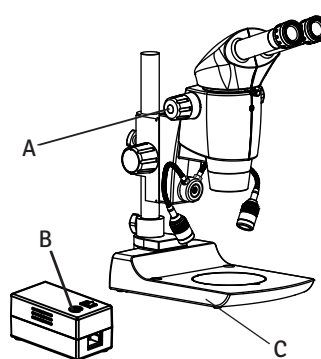

Fig.16
Connect Power Supply output (B) to the Inlet socket (A) on the top of Zoom bracket. Refer figure 16.
Connect Power Supply to the microscope (C). Refer figure 16.